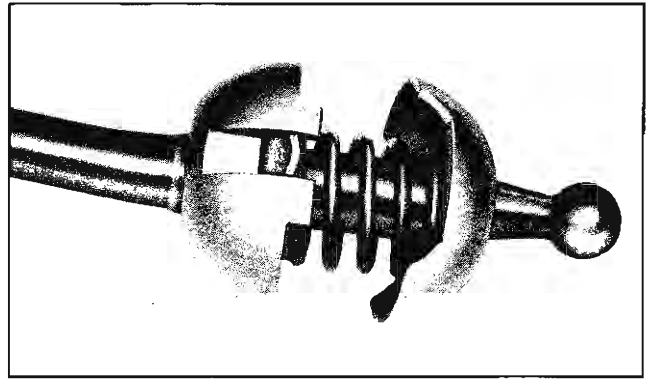

Fig. 7-13 Lining up Spring Cup
5. Install spring and spring cup. Notches in spring cup must line up with control lever as shown in Fig. 7-13.